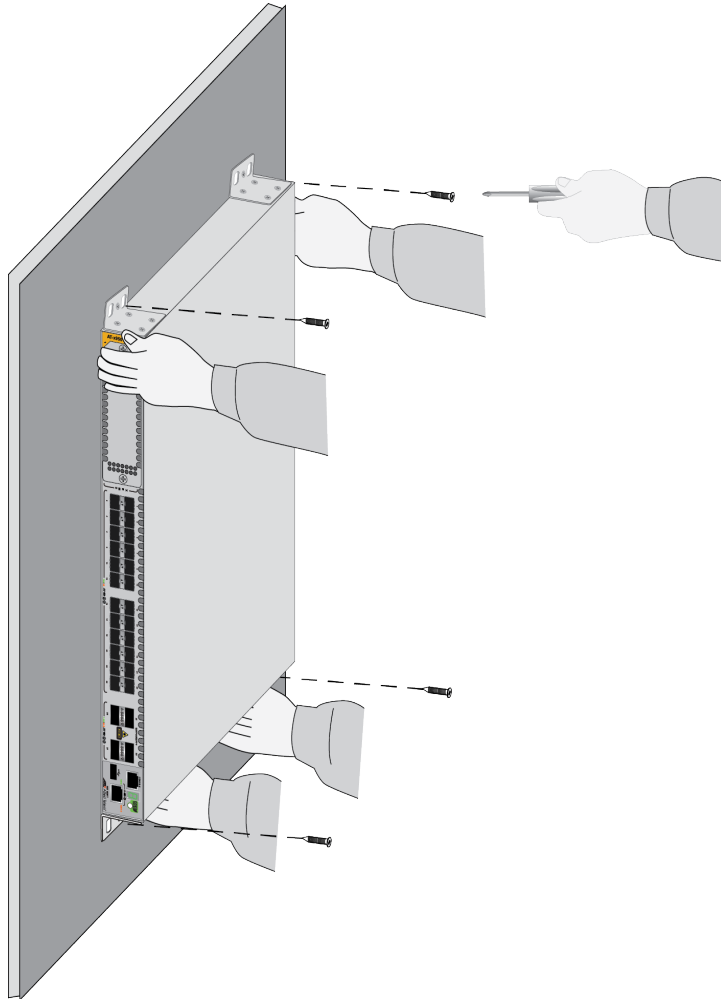

Figure 97. Installing the Switch on a Concrete Wall
7. Have two people hold the switch at the selected wall location while you secure it to the wall with the four provided screws. Refer to Figure 97.